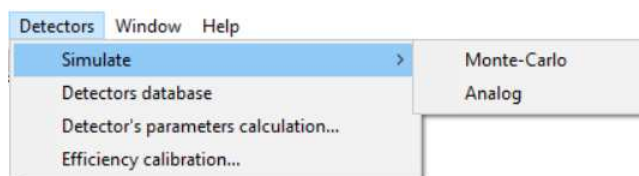

Figure 46.1 Menu item **Detectors**
6.5 Items of the main menu **Detectors** (see fig. 46.1)